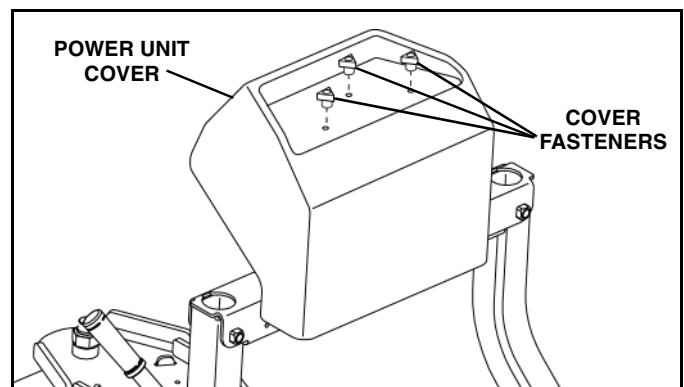

Figure 1-39
3. Remove three plastic fasteners and cover from power unit. (See Figure 1-39).